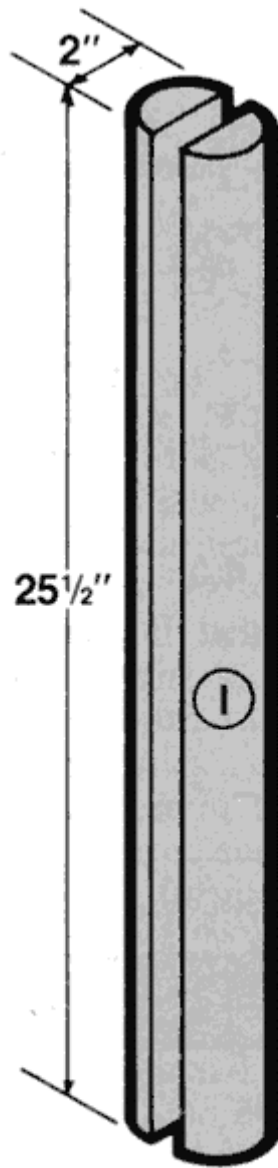

Figure 2
4: Using your Lathe, turn two spindles 2" in diameter by 25-1/2" long. Locate the centers of each turned spindle and cut them in half lengthwise to create the four Leg Caps (I). The easiest way to accomplish this is by tilting your Bandsaw Table to 45-degrees and using your Rip Fence to form a V-Block jig to help you guide your turned spindles through the cuts. **See Fig. 2.**